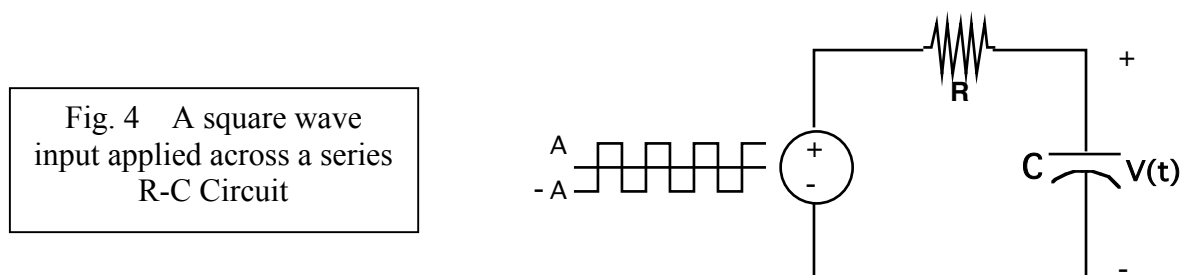

Fig. 4 A square wave input applied across a series R-C Circuit
Let the source voltage V_s be a square wave of frequency f and amplitude A , applied to the R-C circuit as shown in fig. 4.
- a- Take a $C = 0.01 \mu\text{F}$ capacitor and use a resistor R so that one-half period of a 1.00 KHz square wave will be 5τ where the time constant $\tau = RC$. Arrange such an R-C circuit (fig. 4) with the function generator as the source. Observe the function generator output on Channel 1 and V_C on Channel 2.
- c- Since $f = 500\text{Hz}$, a half period is 10τ . Notice that the capacitor has time to (practically) fully charge on each half cycle. (see eq. (2) and note that e^{-10} is negligible.) Change the sweep to 0.1 msec/div. Now a half period is 10 divisions wide. Let us write a theoretical expression for the capacitor voltage V_C . Taking the origin of time, $t=0$, when the square wave jumps from $-A$ to A , we can determine the capacitor voltage V_C during the half cycle that follows $t = 0$ as